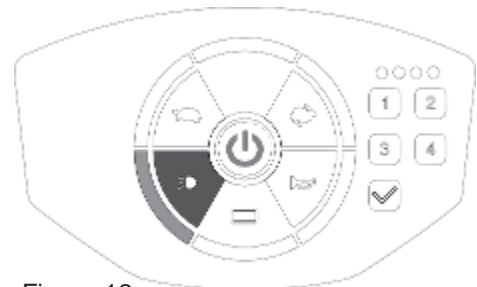

Figure 12
- Switch off by pressing the button again, the [] light will be off on the panel (figure 12)